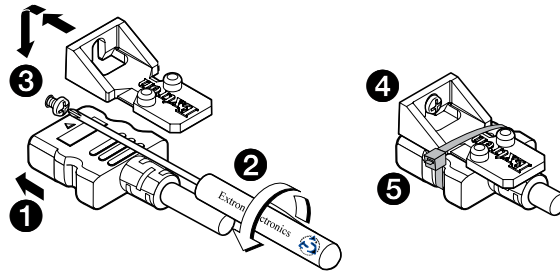

Figure 3. Installing the LockIt Lacing Bracket
1. Plug the rear panel HDMI or USB (NAV E 501 only) cable into the panel connection (see figure 3, ①).